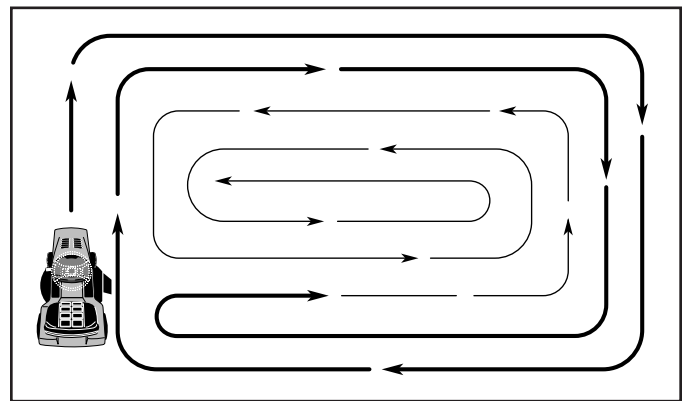

Fig. 27
- When mowing large areas, start by turning to the right so that clippings will discharge away from shrubs, fences, driveways, etc. After one or two rounds, mow in the opposite direction making left hand turns until finished (See Fig. 27).